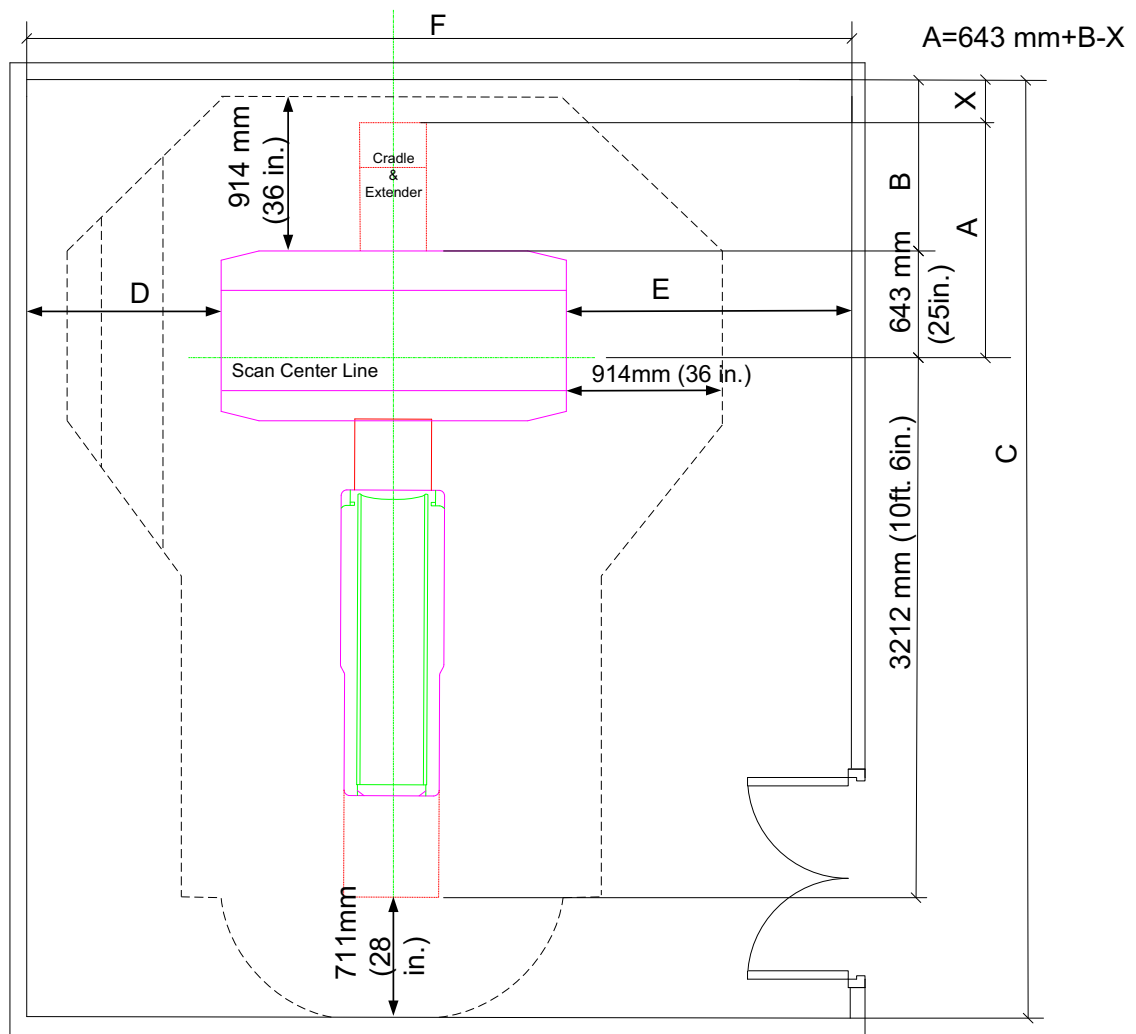

Figure 4-3 Short Footprint Calculation diagram
- 1.) Refer to Figure 4-3 , use floor template with ruler to prearrange the layout and calculate the cradle scannable limitation (A).
- 3.) Record the distance from cradle limitation to wall (X) and cradle scannable limitation (A) for installation.